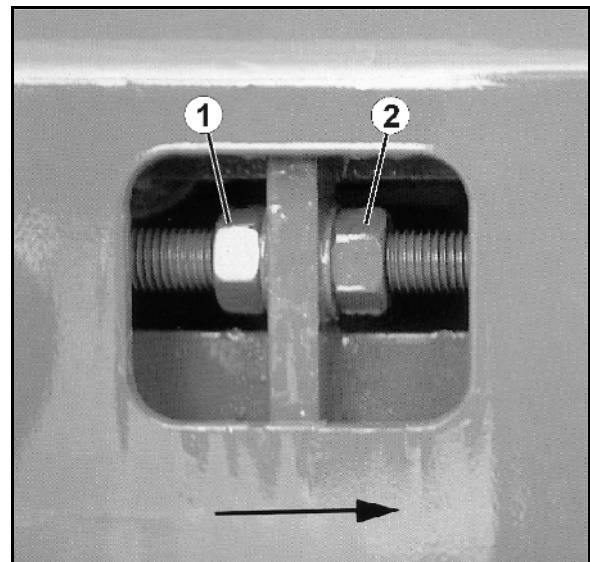

Fig. 41
1. Loosen the rear lock nuts on both sides when viewed in the direction of travel (see arrow) (Fig. 41/1) by turning them anti-clockwise.
2. Turn the nuts on both sides evenly to the left when viewed in the direction of travel (see arrow) (Fig. 41/2).
The adjustment travel of the nuts (Fig. 41/2) must be equal on both sides of the floor belt. Do not turn either nut (Fig. 41/2) more than a ½ spanner turn. Tighten the lock nuts and check whether the belt conveyor is driven evenly again.